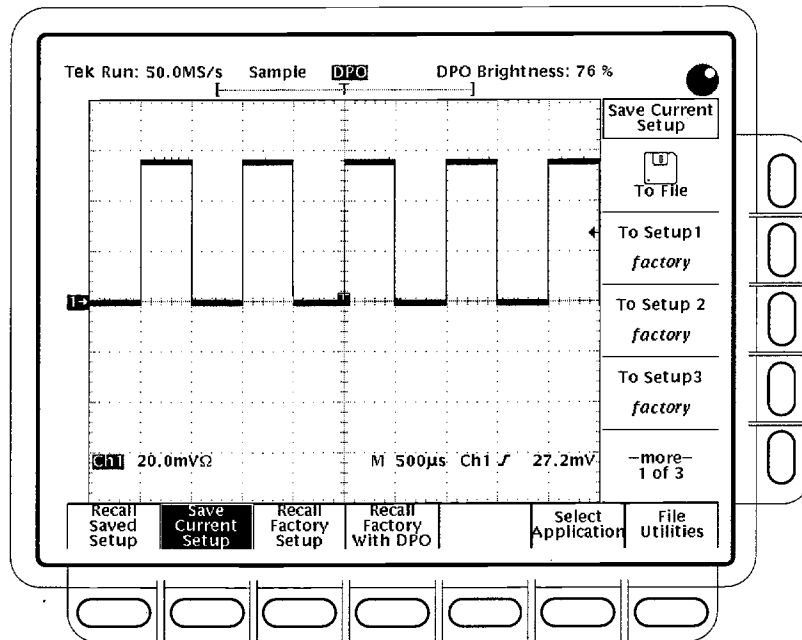

Figure 3–75: Save/Recall Setup Menu
2. To store to a setup internally, choose one of the ten internal storage locations from the side menu **To Setup 1**, **To Setup 2**, ... (see Figure 3–75). Now the current setup is stored in that location.